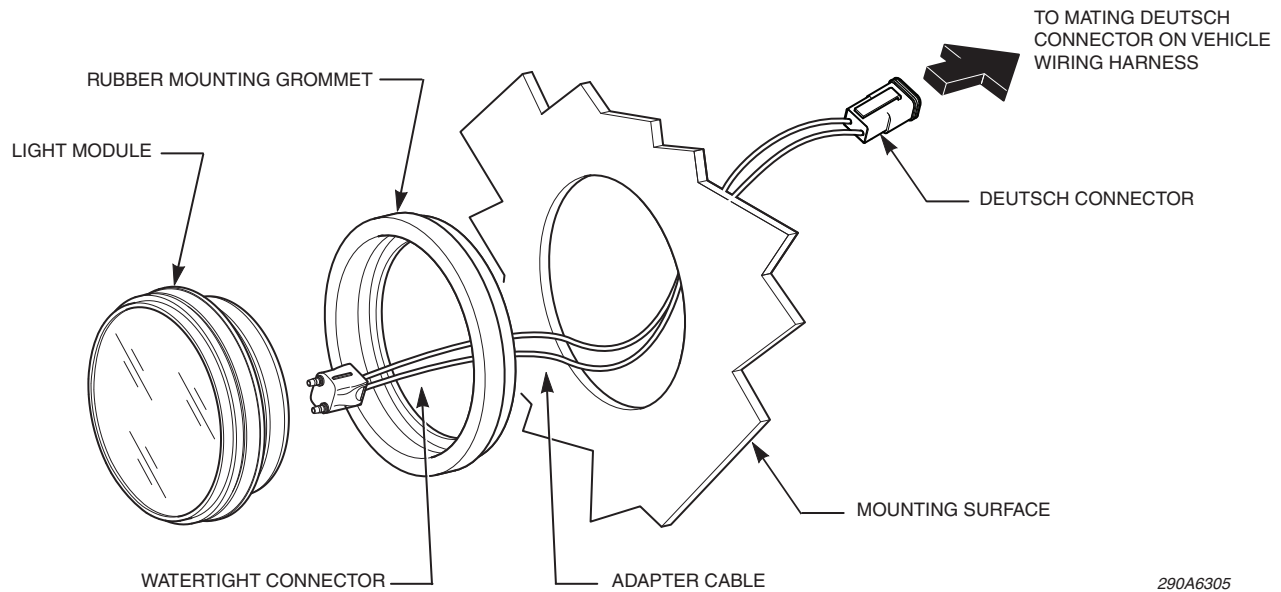

Figure 1: Connection between light module and vehicle wiring harness
2. Connect the adapter cable to the vehicle wiring harness (Figure 1 on page 3). Make sure that the tabs on the connector line up with the slots in the backup light connector. See Table 1 for an explanation of the adapter cable colors, and for their functions and locations on the Deutsch connector.